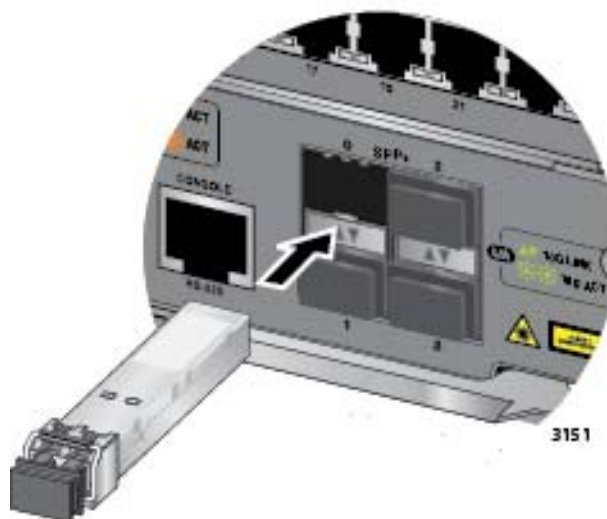

Figure 116. Installing an SFP or SFP+ Transceiver in the AT-SBx31CFC960 Controller Fabric Card
3. Slide the transceiver into the slot until it clicks into place, as shown in Figure 116.